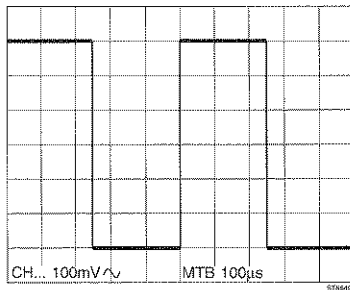
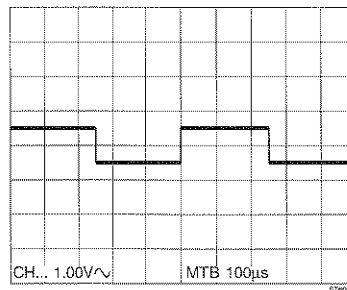

Figure 3.3
Figure 3.4
- Verify that a square wave as indicated in Fig. 3.3 is displayed; in case of an AMPL toggle key on CH3/CH4, the vertical amplitude is 0.6 divisions instead of 6 divisions. The corresponding display is shown in Fig. 3.4.
- Turn the POS control CCW until the display of Fig. 3.3 or Fig. 3.4 is obtained again.
- Press the AC/DC/GND key so that GND input coupling (L) is obtained.
- Press the AC/DC/GND key so that ac input coupling (~) is obtained. The waveform as indicated in Fig. 3.3 or Fig. 3.4 is displayed again.
- Verify that a square-wave as shown in Fig. 3.3 is displayed.
- Press the TRIG 1 key again and verify that the displayed square-wave starts with a positive-going slope as indicated in Fig. 3.3.
- Select 100  $\mu$ s/division with the MAIN TB TIME/DIV keys and verify that the square wave is displayed as shown in Fig. 3.3.